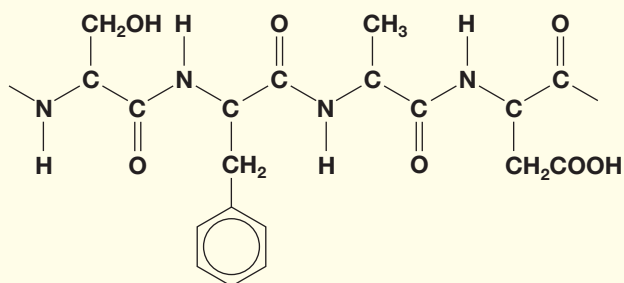

Figure 5.11 ▲
- 1 The structure in Figure 5.11 shows a short section of a protein molecule.